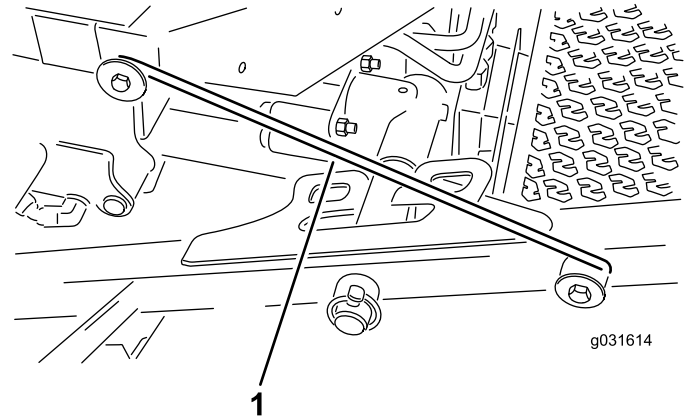

Figure 26
4. Release the latch rod from the front carrier-frame retainer (Figure 26).
5. Lift the outside of the front cutting units and place the latch over the frame pin mounted on the front of the operator's platform (Figure 26).